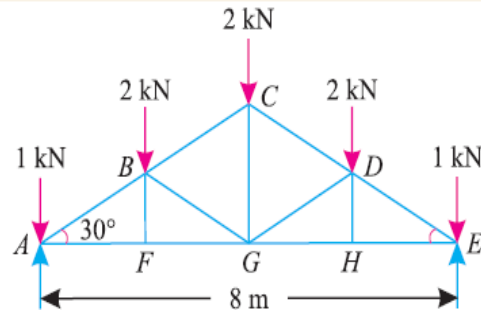

fig.34
9. A king post truss of 8 m span is loaded as shown in Fig.34. Find the forces in each member of the truss and tabulate the results. [10 M]